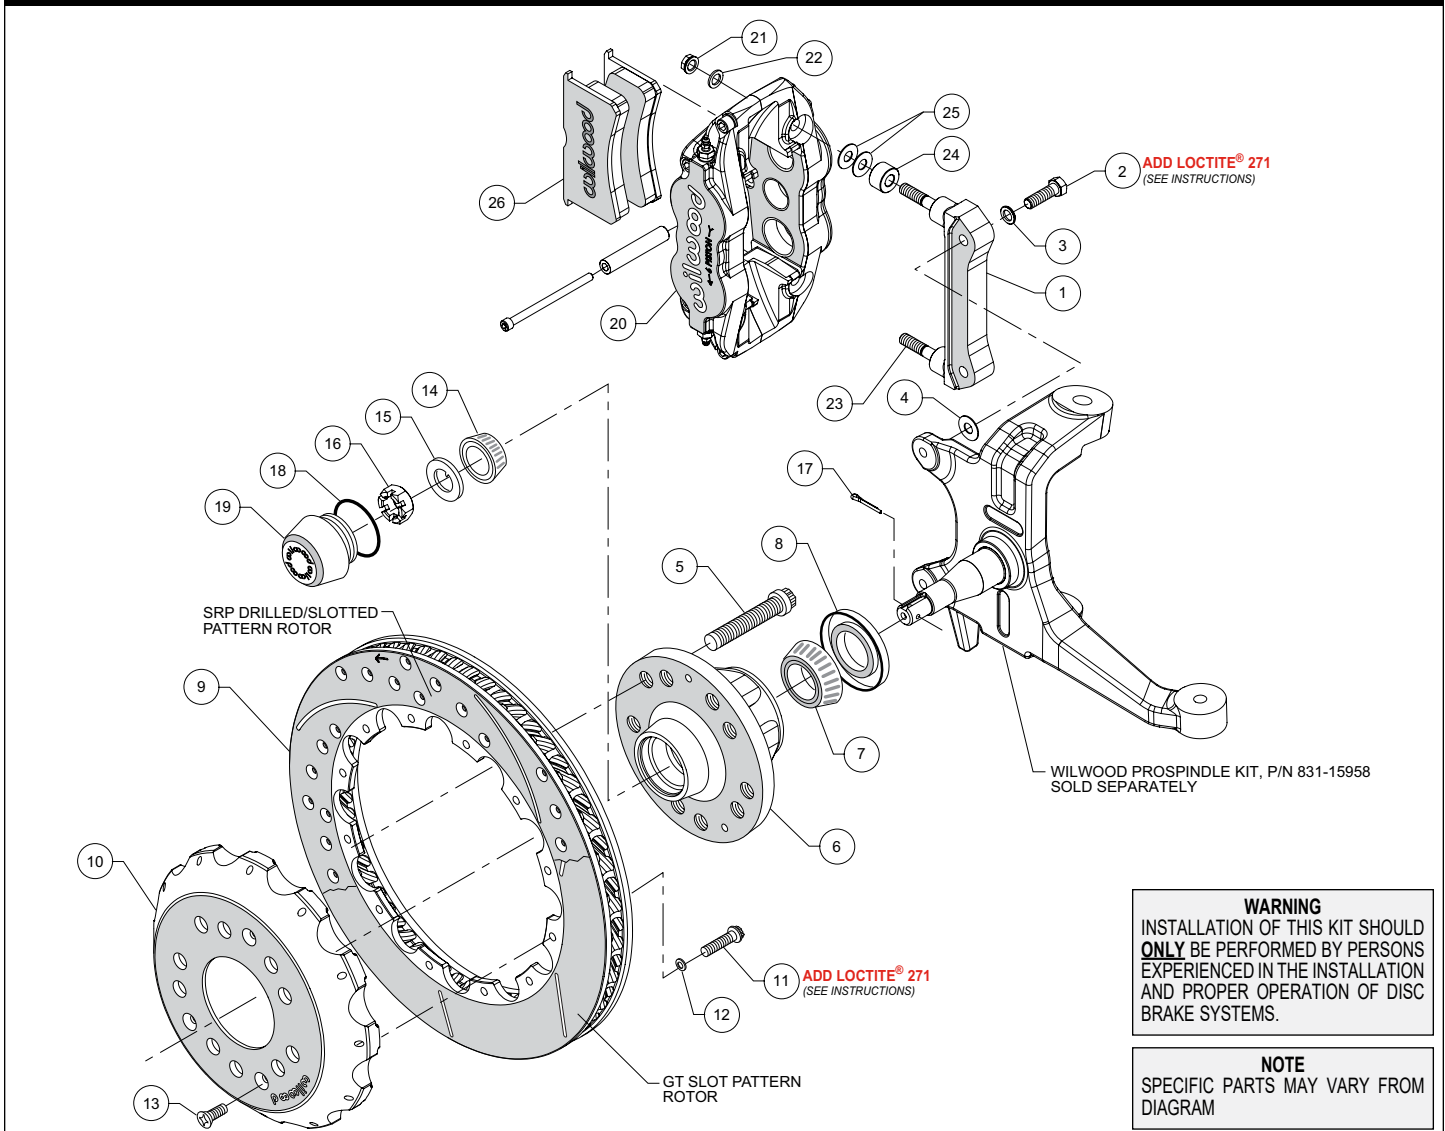
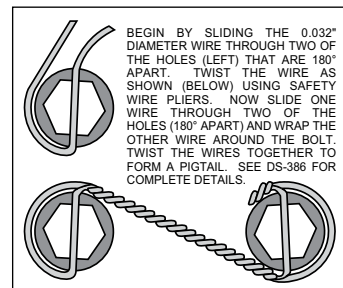

Figure 1. Typical Installation Configuration
Figure 3. Safety Wire Diagram
**NOTE:** Numbers in parenthesis refer to the parts list and Figure 1 on the preceding pages.
- The caliper mount bracket (1) should initially be installed with clean, dry threads on the mounting bolts. Orient the bracket as shown in Figure 1, and install using bolts (2) and washers (3). Initially place one .035" thick shim (4) on each bolt between the bracket and spindle, Figure 1 and Photo 1. Temporarily tighten the mounting bolts. **NOTE:** *The bracket must fit squarely against the mounting points on the spindle.* Inspect for interference from casting irregularities, machining ridges, burrs, etc. Later, after the caliper alignment has been checked, the mount bolts will be secured using red *Loctite*® 271.
- Orient the rotor (9) and the hat (10) as shown in Figure 1 and Photo 5. Attach rotor to hat using bolts (11) and washers (12). Apply red *Loctite*® 271 to the bolt threads and torque to 155 **in-lb** using a criss-cross pattern. For an added measure of security, the bolts may be safety wired using standard 0.032 inch diameter stainless steel safety wire as shown in Figure 3. Refer to Wilwood's data sheet DS-386 (available at [www.wilwood.com/Pdf/DataSheets/ds386.pdf](http://www.wilwood.com/Pdf/DataSheets/ds386.pdf)) for complete safety wire installation instructions.
•**NOTE:** This kit contains distinct right and left hand calipers that must be mounted in a specific direction, as described below. Initially place one spacer (24) and two .035" thick shims (25) on each stud (23) between the caliper and the bracket, as shown in Figure 1 and Photo 7. Mount the caliper (20) onto the bracket (1) using lock nuts (21) and washers (22), Figure 1. Ensure that the caliper is mounted so the largest pistons are at the rotor exit end of the caliper, in relation to the direction of rotor rotation. Temporarily tighten the lock nuts and view the rotor through the top opening of the caliper. The rotor should be centered in the caliper, Photo 8. If not, adjust by adding or subtracting shims (4) between the bracket and the spindle. Always use the same amount of shims on each of the two mounting bolts. Once the caliper alignment is correct, remove the bracket mounting bolts (2) one at a time, apply red *Loctite*® 271 to the threads, and torque to 40 ft-lb.